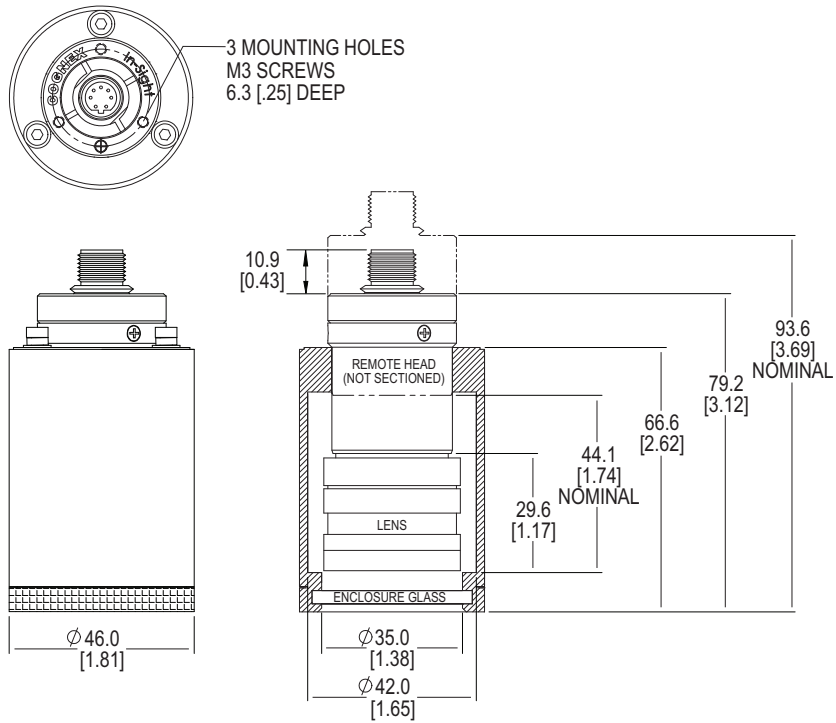

Figure 3-12: Remote Head Camera Enclosure Dimensions
1. Attach the remote head camera bracket (item 4) to the mounting surface (refer to Figure 3-12 on page 42).
2. Attach the remote head camera (item 5) to the remote head camera bracket using three M3 x 8mm Phillips head screws (item 3).
3. If required, slide the Lens Tube (item 6) over the remote head camera (item 5) and secure to the remote head camera bracket (item 4), using four M4 x 18mm cap screws (item 1) and lock washers (item 2).